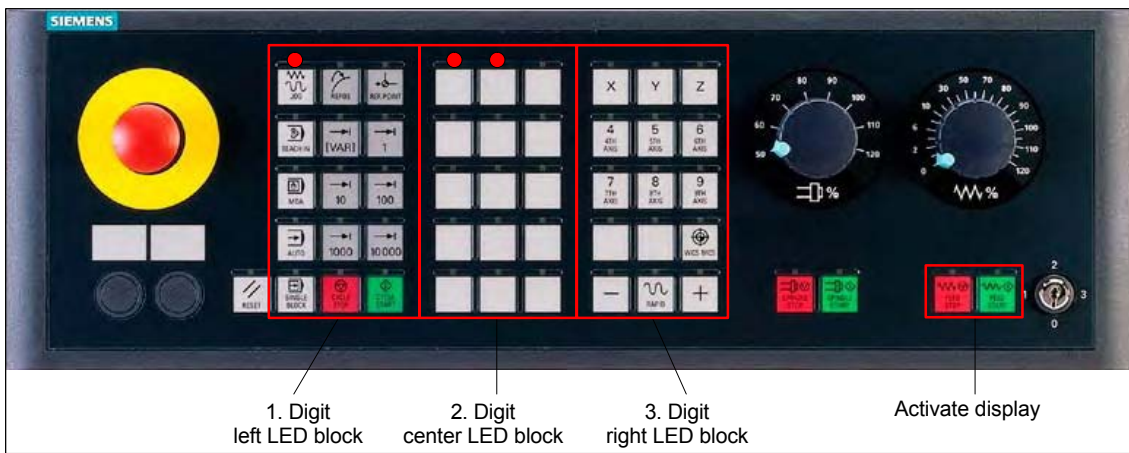

Fig. 7-5 Display of software version: 1 . 2 . 0
1) Display of the digit by means of continuously illuminated LEDs on the individual LED blocks according to Fig. 7-5